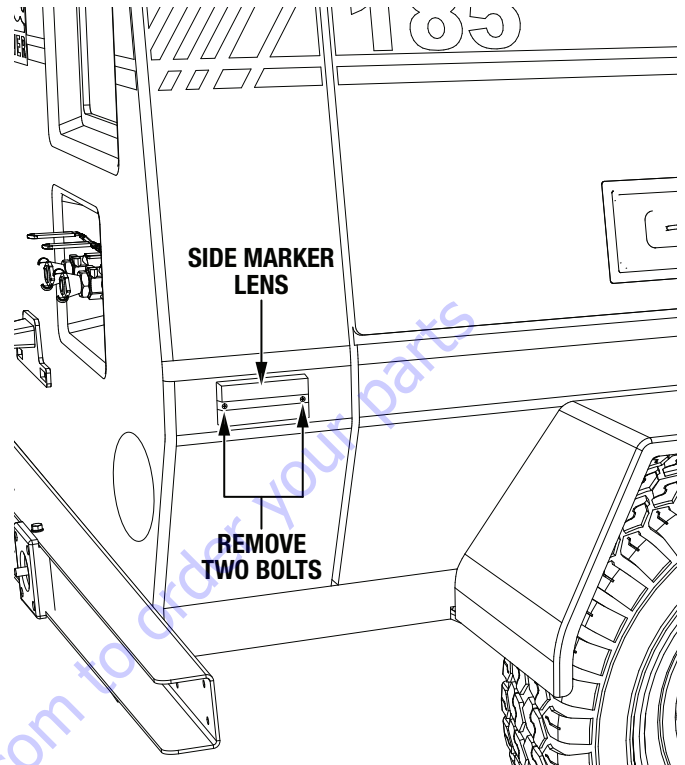

Figure 8. Side Marker Lens Removal
- On the fuel tank side** of the air compressor, remove the two bolts securing the rear side marker lens (Figure 8) to the frame. Set the lens and foam backing aside and discard the bolts.